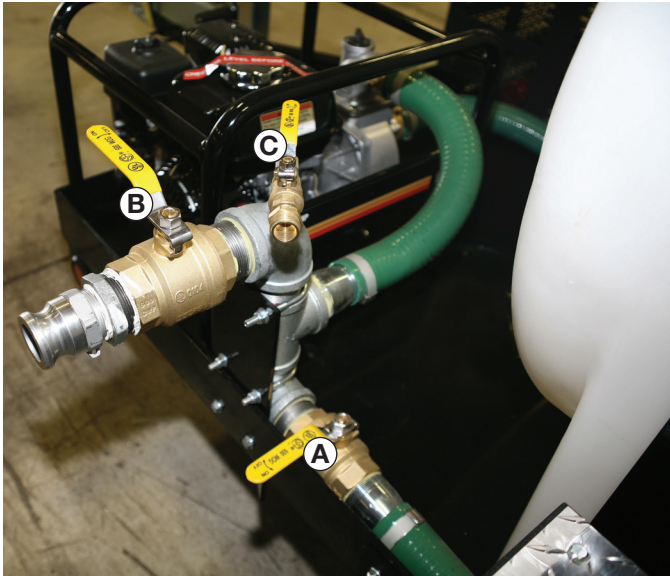

Figure 1
The Mi-T-M Water Trailer features an easy to use discharge manifold that allows the operator three methods of controlling water flow. Water can be discharged through the spray nozzle valve (A), fire hose valve (B), or garden hose valve (C). (figure 1)